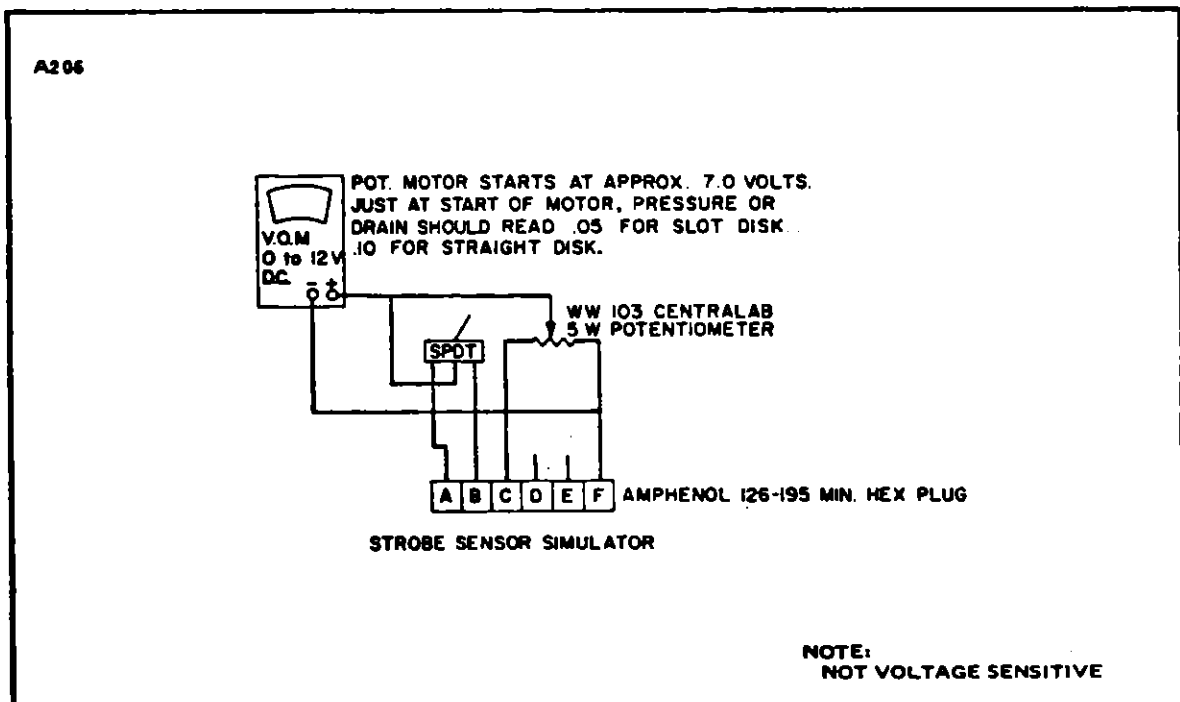

Figure 14-11. Strobe Sensor Simulator
- (d) Connect the strobe sensor simulator. (Refer to Figure 14-11.) Move the potentiometer and listen to the computer. The motor should run at approximately 7 volts.